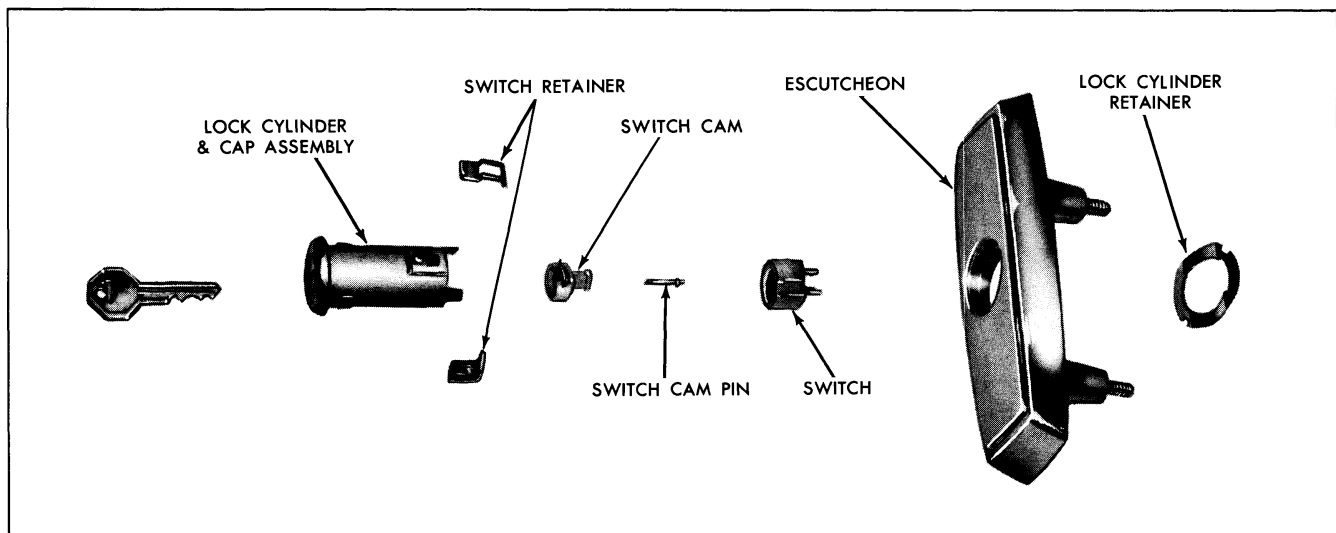

Fig. 14-22 Tailgate Handle and Lock Details
3. Using a pointed tool inserted through hole in lock cylinder case, depress tab of both switch retainers and remove retainers and switch (Fig. 14-22).
4. Using a suitable pliers, grasp pin of switch cam firmly and pull switch cam straight out from lock cylinder (Fig. 14-22).
*NOTE: The crimped flange on cap necessitates damaging cap during removal from case; therefore, service replacement caps are available which have four (4) bend over tabs for installation.*